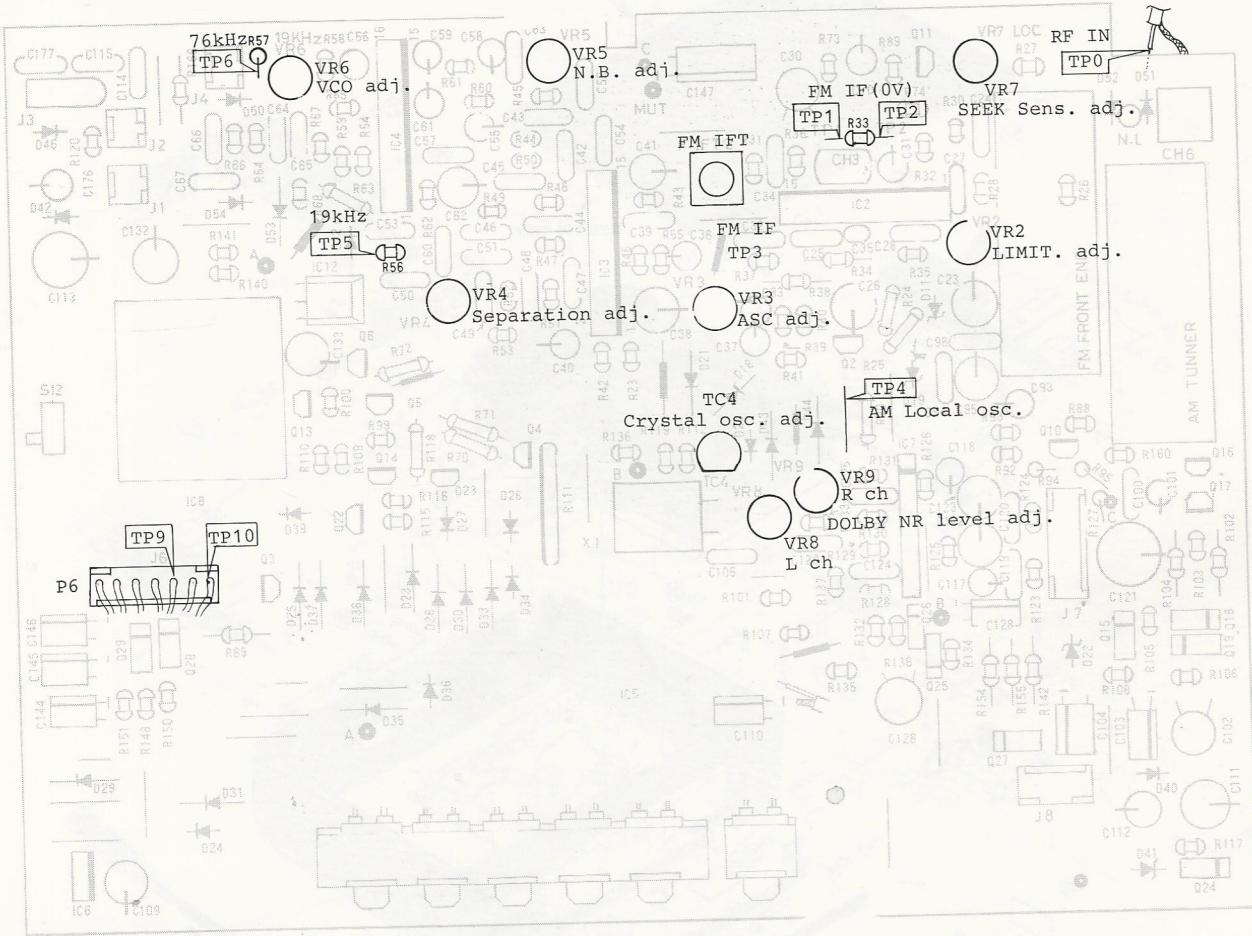

Fig. 12 (C33190232)
(2) Alignment (Refer to Fig. 12)
- (1) Connections
- (1) Connections a. Frequency counter.....Connect the [TP 6]
- (1) Connections a. Stereo signal generator.....Connect the [TP 0]
- (1) Connections a. Frequency counter (Resolution: 1 Hz).....Connect the [TP 4]
(1) Connections
(2) Alignments (Refer to Fig. 12 for ADJUSTMENT POINTS.)